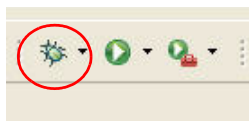

Figure 1-9. Debug Button
3. Click the Debug/Run button as shown in the top left corner of Figure 1-9.